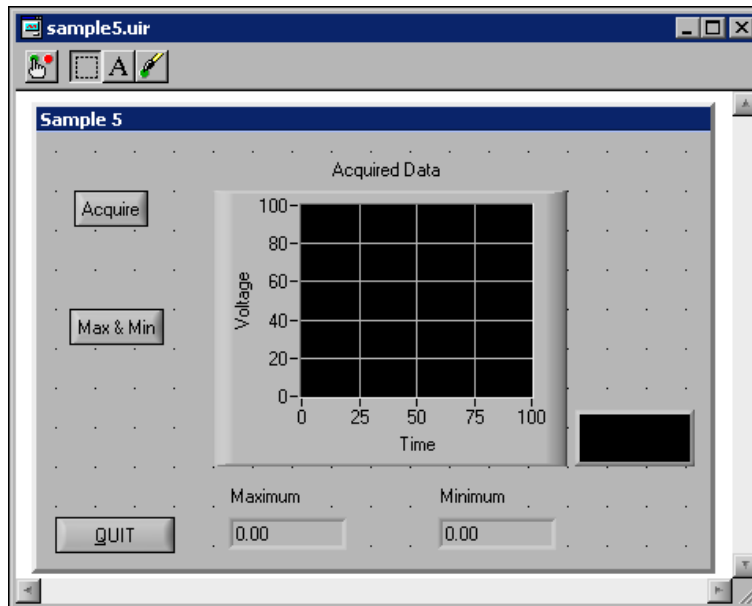

Figure 7-1. Sample User Interface
2. Without closing the `sample5.c` source code, open `sample5.uir`. Your goal is to modify the `.uir` to match the user interface shown in Figure 7-1.
10. Position the two new controls on the user interface to match those shown in Figure 7-1.